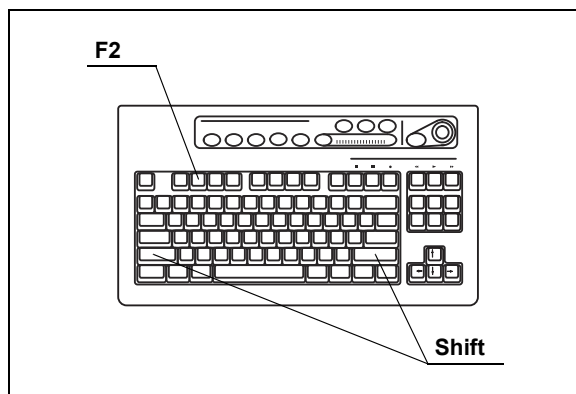
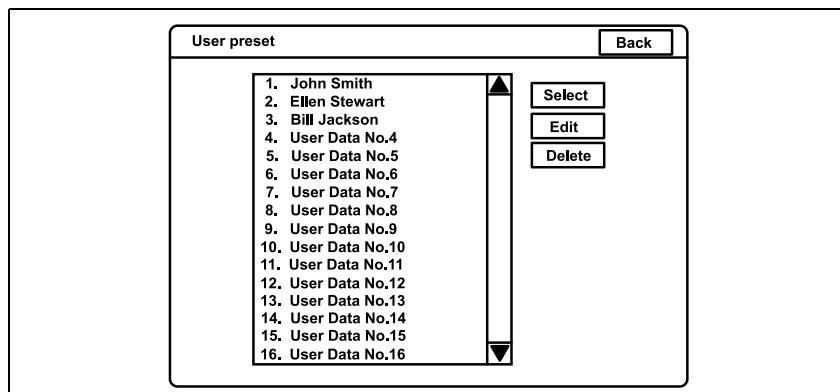

Figure 9.50
Figure 9.51
1. Press the "Shift" and "F2" keys together (see Figure 9.50). The user name list of the user preset menu appears on the monitor (see Figure 9.51).